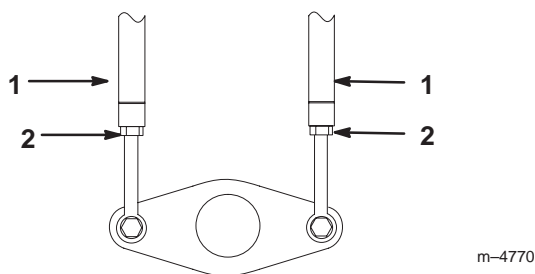

Figure 26
5. Loosen the jam nuts on the traction rods, under the control panel (Fig. 26).